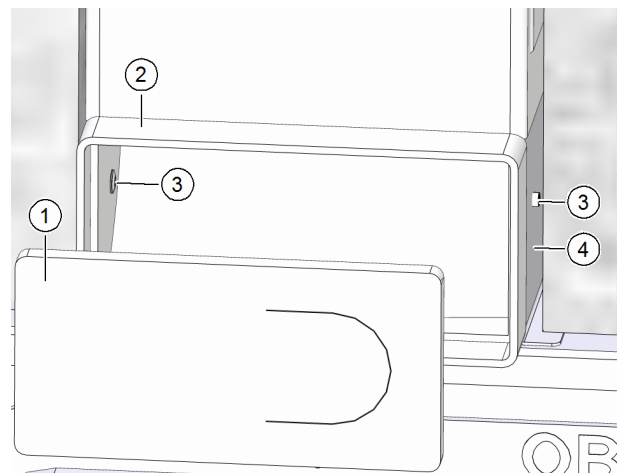

Fig. 19: Riveting the flexible pipe connection to the fixing plate
- ▶ Remove the protective cover for the flexible pipe connection (item 1 in Fig. 19).
- ▶ Use the riveter to fix the flexible pipe connection (item 2 in Fig. 19) to the fixing plate (item 4 in Fig. 19) with two blind rivets (item 3 in Fig. 19).
- ▶ Push the protective cover (item 1 in Fig. 19) back into the flexible pipe connection (item 2 in Fig. 19).